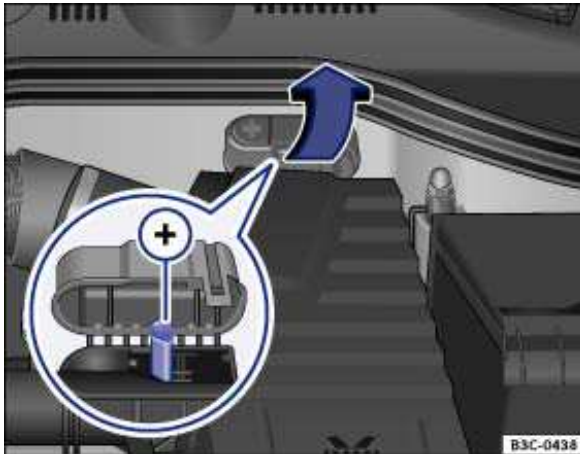

Fig. 196 In the engine compartment: Positive jump start terminal +.
2. Open the battery cover in the engine compartment if the battery has a cover **or** flip open the cap on the positive jump-start terminal¹¹ , ⇒ fig. 196 \(+\).
3. Attach one end of the *red* jumper cable to the **positive terminal (+)** of the dead battery: (1) ⇒ ⚠.
4. Attach the other end of the *red* jumper cable to the **positive terminal (+)** of the good battery (booster battery): (2).
5. Attach one end of the *black* jumper cable to the **negative terminal (-)** of the booster battery: (2) .
6. Attach the other end of the *black* jumper cable (3) to a **bare metal part of the vehicle with the dead battery**. This part should be connected directly to the engine block. You may also attach the cable to the engine block itself. Attach the clamp to a point that is as far away as possible from the dead battery (1) ⇒ ⚠.